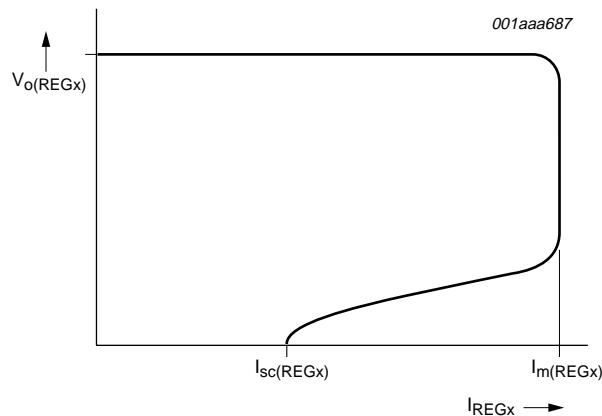
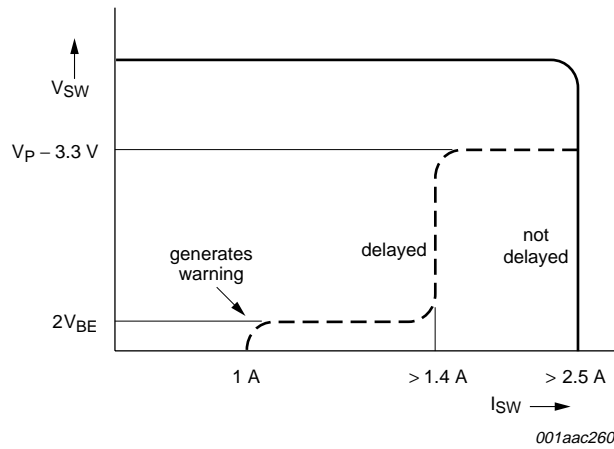

Fig 6. Typical foldback current protection curve for all regulators
Fig 7. Current protection of the power switch
- [1] This parameter is only measured in product validation (PV) tests.
- [9] For a typical shape of the foldback current protection; see Figure 6 and Figure 7.